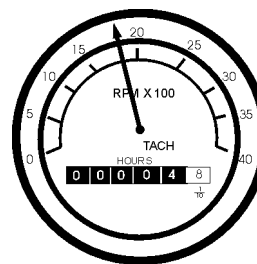

Figure 54. Engine Tachometer
16. The tachometer (Figure 54) will indicate the speed of the engine when the generator is operating. Under normal operating conditions this speed should be approximately 1800 RPM's.